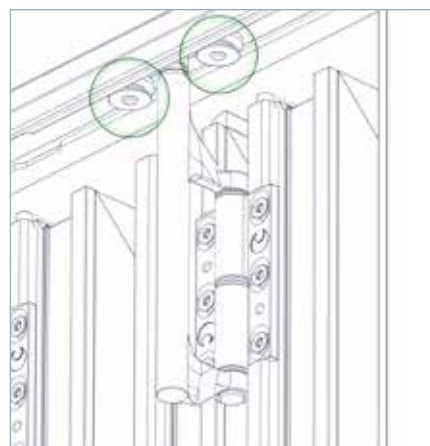

FIG 14A
- ▶ **14.2.** At this point, the pins in the centre of the top guide wheel should be fairly flush with the visible face of the guide wheel, as shown in FIG 14A. Move the doors along the track whilst monitoring the pins in the top guide wheels. If the top and bottom tracks are parallel, the visible pin should remain the same as at the start.